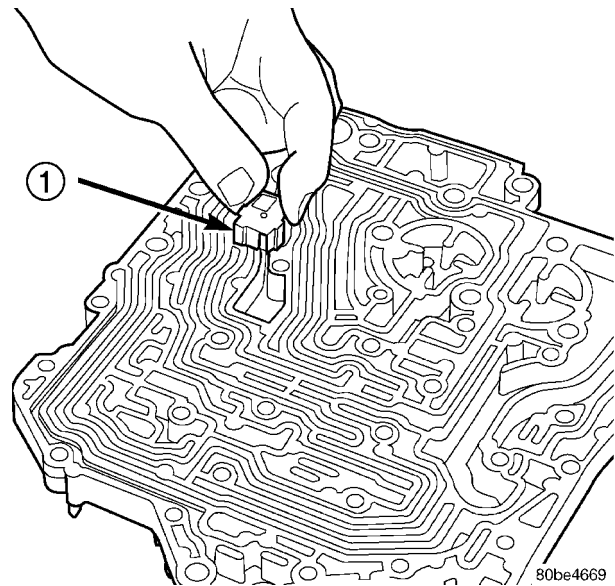

Fig. 351 Remove Thermal Valve
(11) Remove thermal valve (Fig. 351).